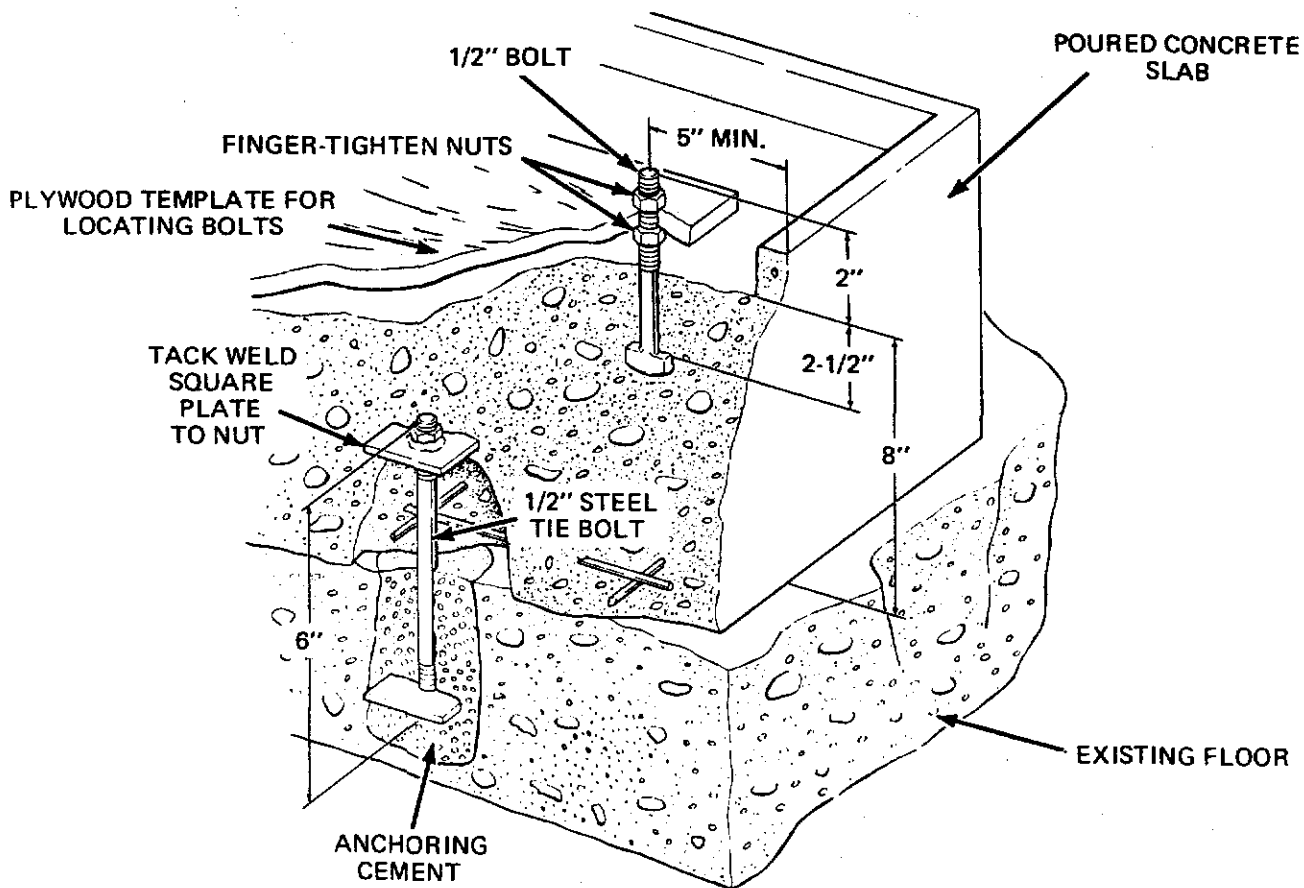

Figure 3
- c. Place four, 1/2 inch diameter steel tie-bolts (6 inch minimum length), with tack welded square washers attached, into center of holes, *Figure 3*.
- j. Fasten mounting bolts to plywood template with nuts. See Figure 3.
- l. Carefully place mounting bolts (with template attached) in wet concrete as shown in Figure 3. Level template from side to side and front to rear, making sure mounting bolts extend the length of the threads (2") from concrete.